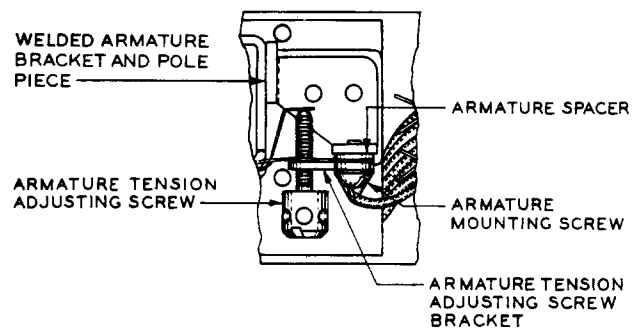

FIG. 6A - 267-TYPE AND D-175787 RELAYS EQUIPPED WITH WELDED ARMATURE BRACKET AND POLE PIECE.
(1) Remove the relay from the mounting plate as outlined in 3.03. When the relay is equipped with a locking arm adjusting screw, remove it with the 3-inch cabinet screwdriver. Remove the armature tension adjusting screw with the No. 340 adjusting key or the 4-inch regular screwdriver.
(2) When replacing a **riveted armature** with a welded armature, an armature spacer must be added in the position shown in Fig. 6A. Remove the armature mounting screws with the 3-inch cabinet screwdriver, taking care not to lose any of the associated parts, and remove the armature from the relay. Reassemble the armature mounting screws and the associated parts, including the spacer, in their proper sequence shown in Fig. 6. Tighten the screws slightly with the 3-inch cabinet screwdriver. To mount the new armature having open-end mounting slots, hold the armature in the angular position so that the upper open-end mounting slot of the armature is adjacent to the upper armature mounting screw. Slip